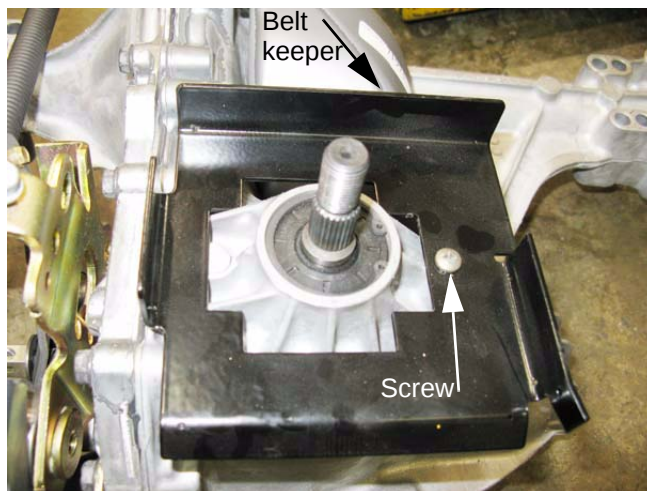

Figure 5.85
- 19d. Remove the belt keeper from the top of the transaxle using a phillips head screwdriver. See Figure 5.85.